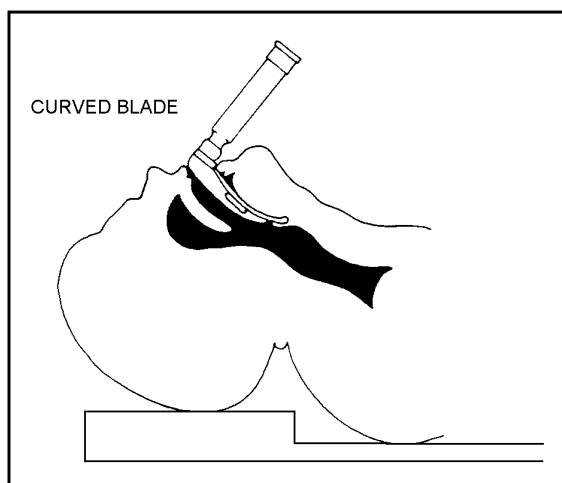

Figure 3-67
- a. When using a curved laryngoscope blade (McIntosh), apply anterior pressure to the vallecula with the tip of the laryngoscope blade to fold back the epiglottis and expose the vocal cords. (See Figure 3-67.)